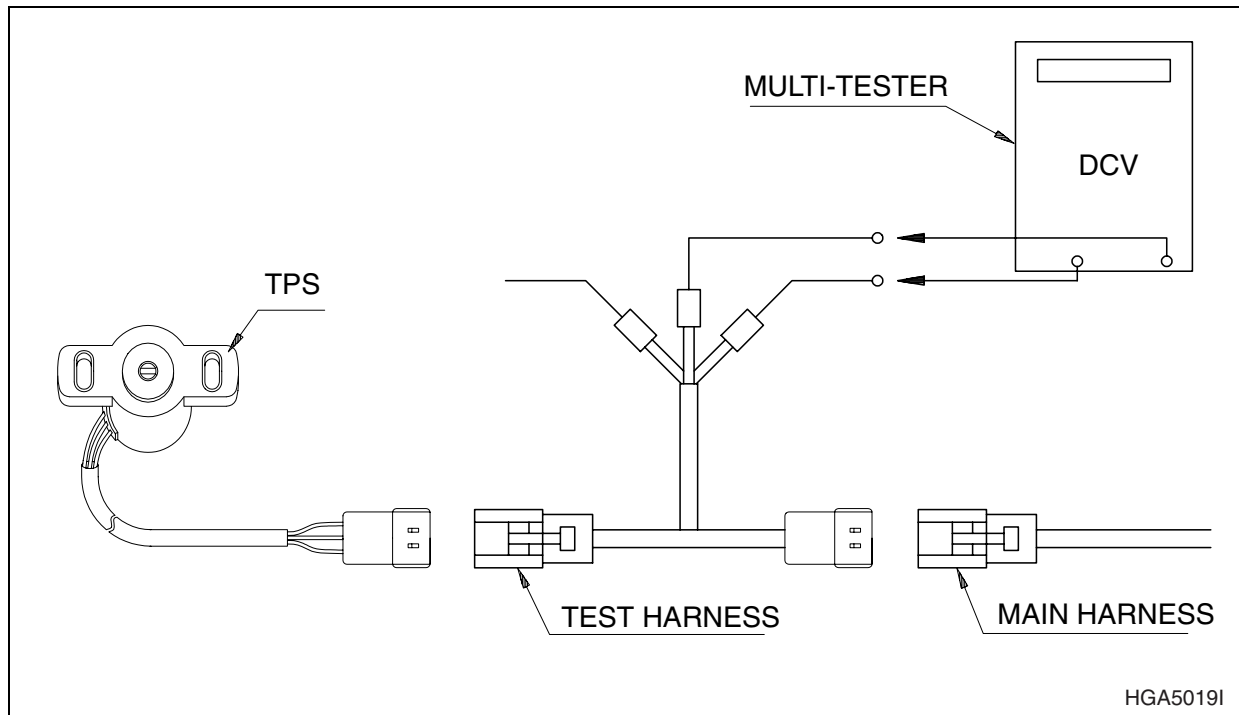

Figure 73
- After connecting the harness for test to TPS, install multi tester, and select DC voltage (DCV) (Refer to "Figure 73").